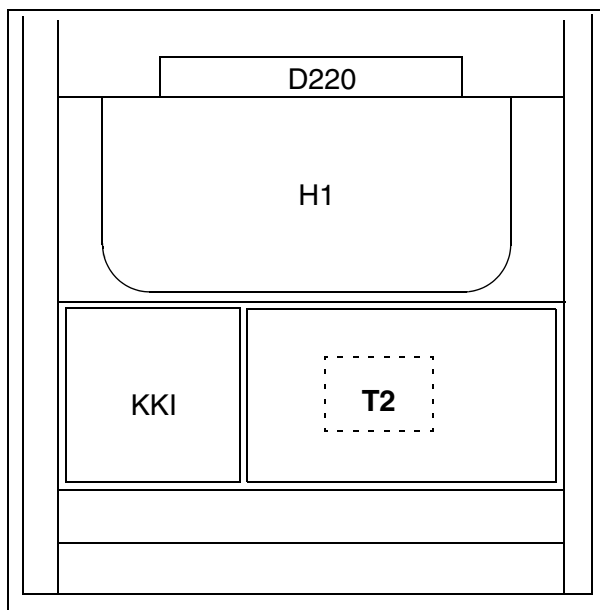

Fig. 24:
- The T2 pre-transformer is installed at the factory per the BZ. Subsequent installation location (Fig. 24 / p. 80).